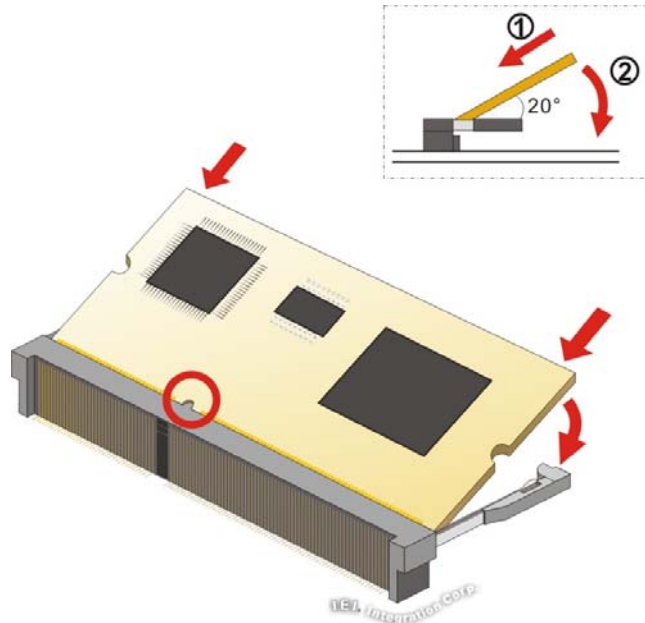

Figure 3-13: iRIS-2400 Module Installation
Step 4: Align the iRIS-2400 module with the iRIS-2400 module slot. Align the notch on the module with the notch on the iRIS-2400 module slot (**Figure 3-13**).
Step 5: Insert the iRIS-2400 module. Push the module in at a 20° angle (Figure 3-13).
Step 6: Seat the iRIS-2400 module. Gently push downwards and the arms clip into place (Figure 3-13).